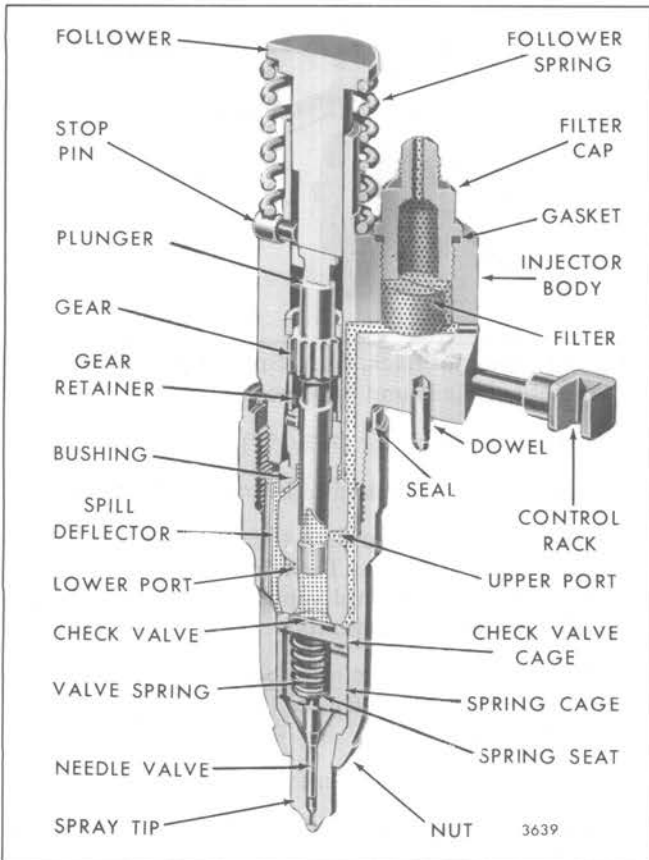

Fig. 30 - Cutaway View of Fuel Injector
19. Put the needle, tapered end down, into the spray tip (Fig. 30). Then, place the spray tip assembly on top of the spring cage with the quill end of the needle valve in the hole in the spring cage.